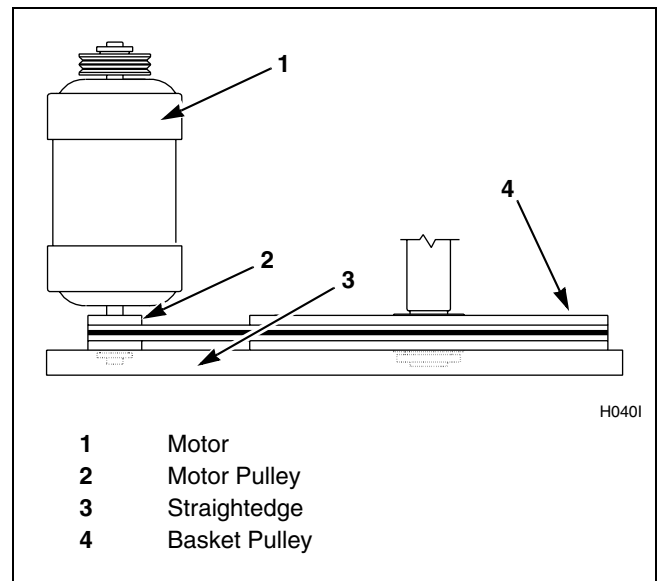

Figure 10
- b. For groove-pulley drive systems, verify alignment by placing a straightedge across both pulley faces. The straightedge should make contact with the pulleys in four places. Refer to *Figure 10*.